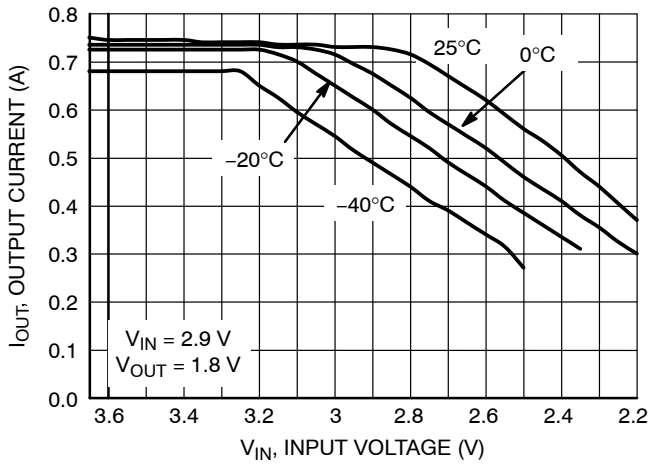

Figure 17. Output Current Capability for the 1.8 V Version
18. For output current capability for $T_A < 0^{\circ}\text{C}$, please refer to Figures 17 and 18.